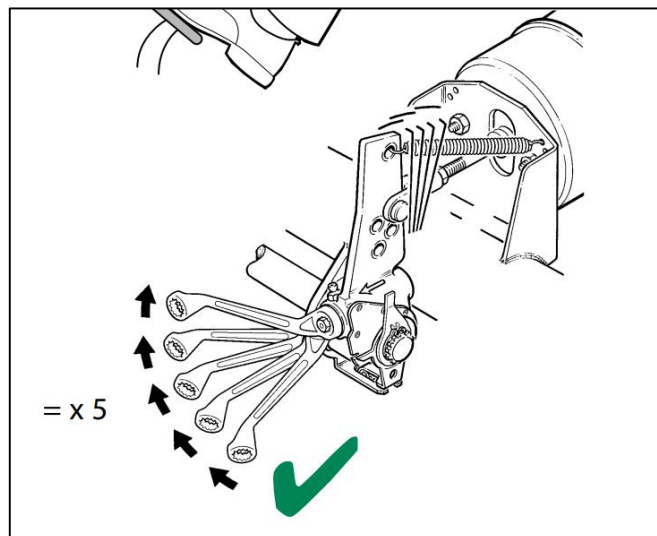

Figure 22: Function of the automatic slack adjuster shown by the spanner rotating clockwise on return stroke.
14. The function of the automatic slack adjuster can now be tested. Leave a ring spanner on the adjusting nut and apply the brakes 5 times. The slack adjuster is working when the hexagon nut rotates clockwise on the return stroke. See figure 22 above as an example.